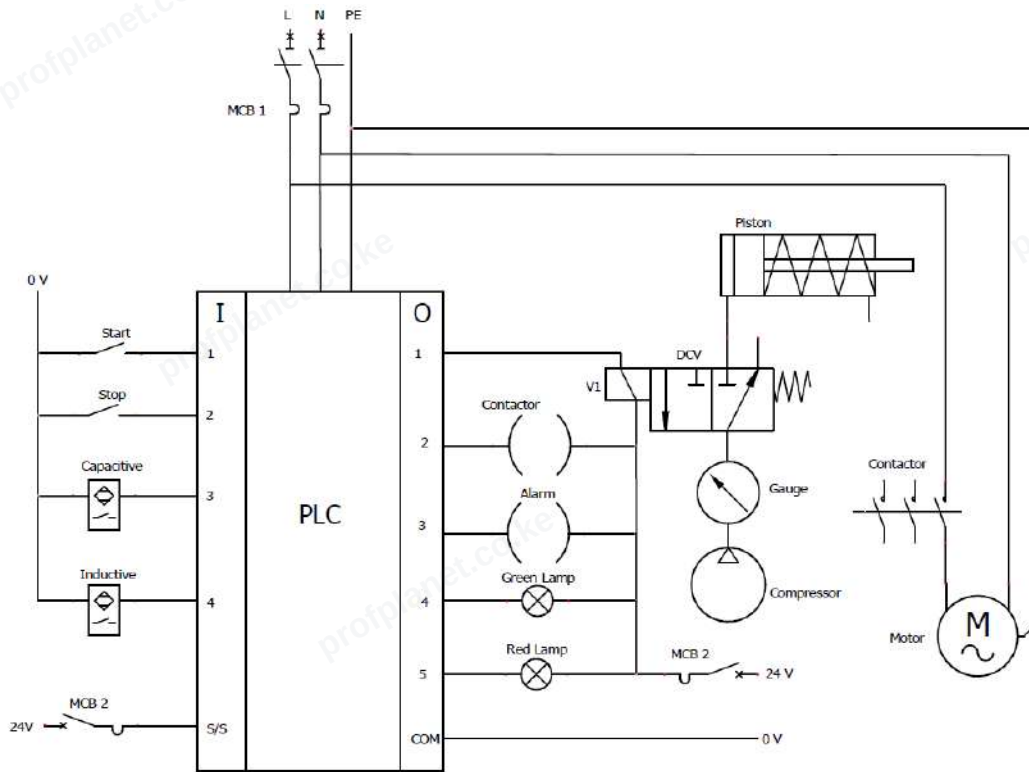

Figure 1: PLC and Pneumati Circuit
4. Wire the PLC inputs and outputs as per the provided wiring diagram in Figure 1. Ensure correct power supply connections for all I/O devices as per standard electrical practices.